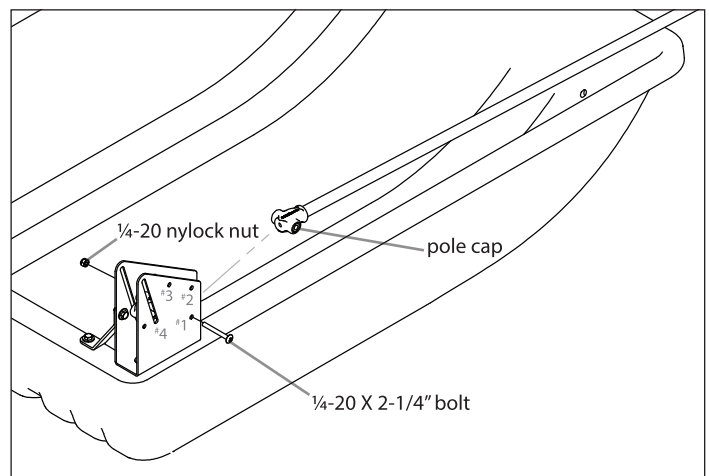

FIGURE 3
5. Starting with the hole #1 on each of the (2) hinges (15062), attach the (3) frame support poles (15017) from the previous step, to the left and right hinges using (2) 1/4-20 x 2-1/4" bolts, and (2) 1/4-20 nylock nuts. Repeat this step for hole #2 and #3 on each of the hinges. **SEE FIGURE 3**